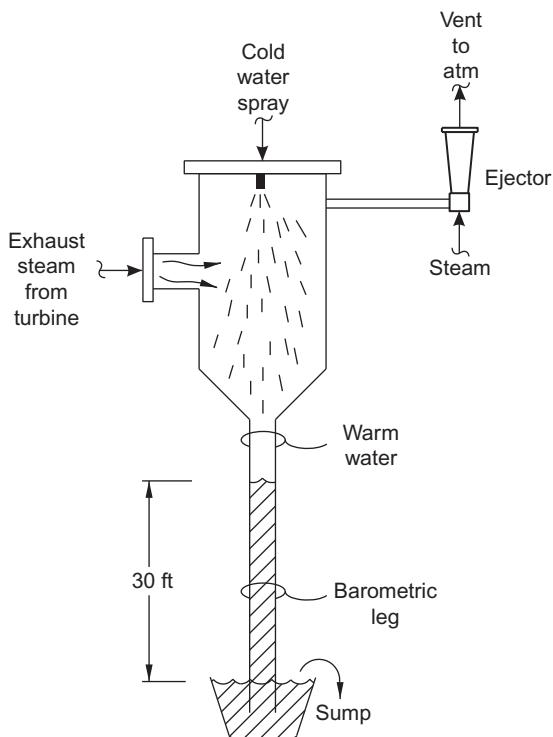

FIG. 26.1 Old style barometric condenser.
- The low horsepower output from the turbine was due to the high turbine exhaust pressure to the vacuum surface condenser (see Fig. 26.1).
At my Sulfuric Acid Regeneration Plant in Texas City that I operated in 1974, the blower was driven by a steam turbine that exhausted to a barometric condenser. I've shown a sketch of it in Fig. 26.1. It was a trouble-free piece of equipment, unlike other items in that plant that I still recall with loathing after 43 years.